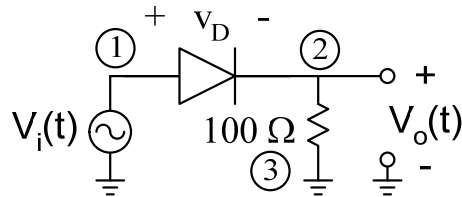

Fig. 6 – Circuit for I-V Characteristic Measurement
The I-V characteristics of a diode can be displayed directly on the oscilloscope using XY mode and the circuit shown in Fig. 6. The voltage across the resistor (which is  $R(I_D)$ ) is used as the Y input and the voltage across the diode  $v_D$  is used as the X input. Thus a voltage  $100 * I_D$  will be the vertical axis, and  $v_D$  will be the horizontal axis. It must be noted that the voltage units of the vertical scale should be divided by 100 to obtain the diode current in amperes.
1. Construct the circuit shown in Fig. 6, using the 1N4006 or 1N4148 diode.
- Is the current flowing in the load resistor in Fig. 6 *bidirectional* or *unidirectional*?
- For Part C, compare the ripple voltages of the following: (1) power supply with  $C=100\mu\text{F}$ , and (2) power supply with  $C=10\mu\text{F}$ .